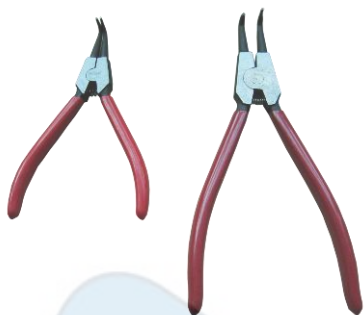

Figure 8-1
- (2) Use the tools to adjust the torsion as Figure 8-1.
| Clutch slips and tap will not turn | Tap holder clutch torsion needs to be adjusted. | Adjust tap holder torsion (see Figure 8-1 and 8-2) |